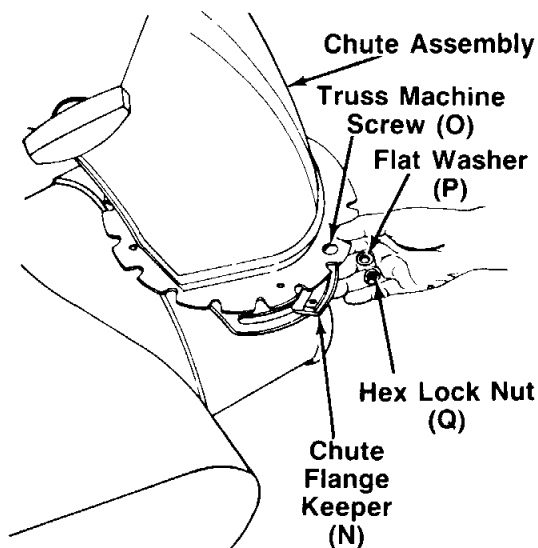

FIGURE 8.
11. Place chute assembly over chute opening, with the opening in the chute assembly facing the front of the unit. Place chute flange keepers (N) beneath lip of chute assembly. Secure with truss machine screws (O), flat washers (P) and hex lock nuts (Q) as shown in figure 8. Tighten with a screwdriver and a 7/16" wrench.